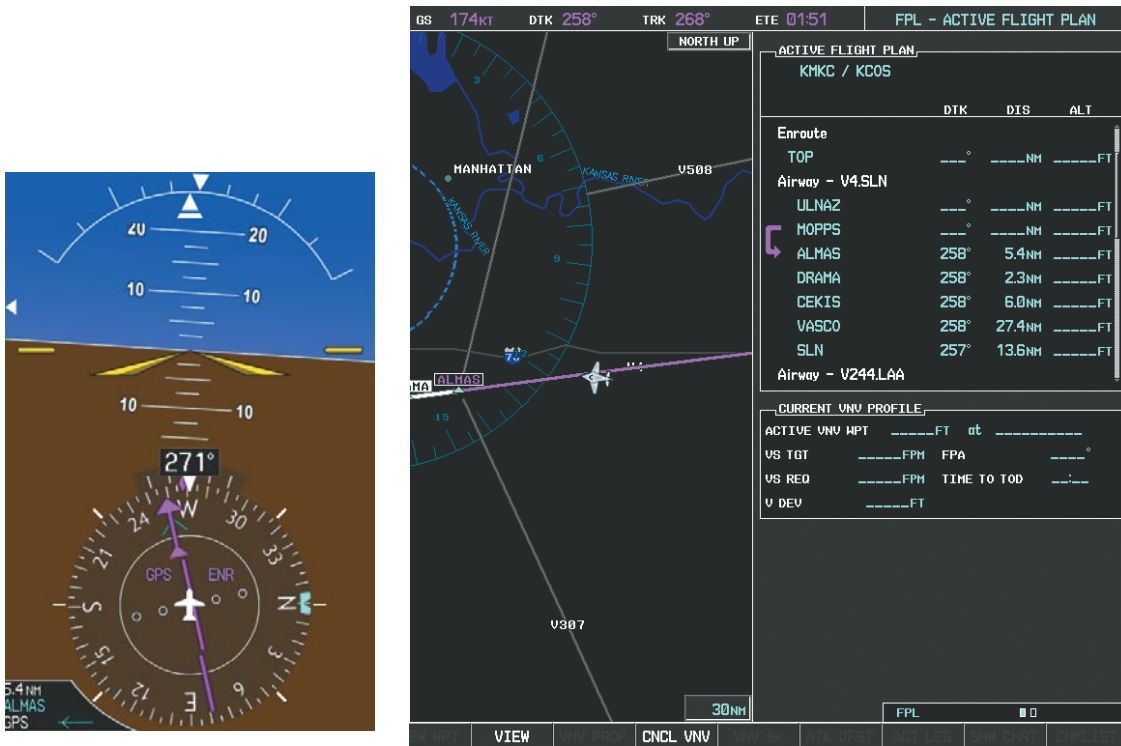

Figure 5-115 Turn on to Active Leg
7) As the CDI approaches center, the aircraft turns onto the active leg as seen in Figure 5-115.